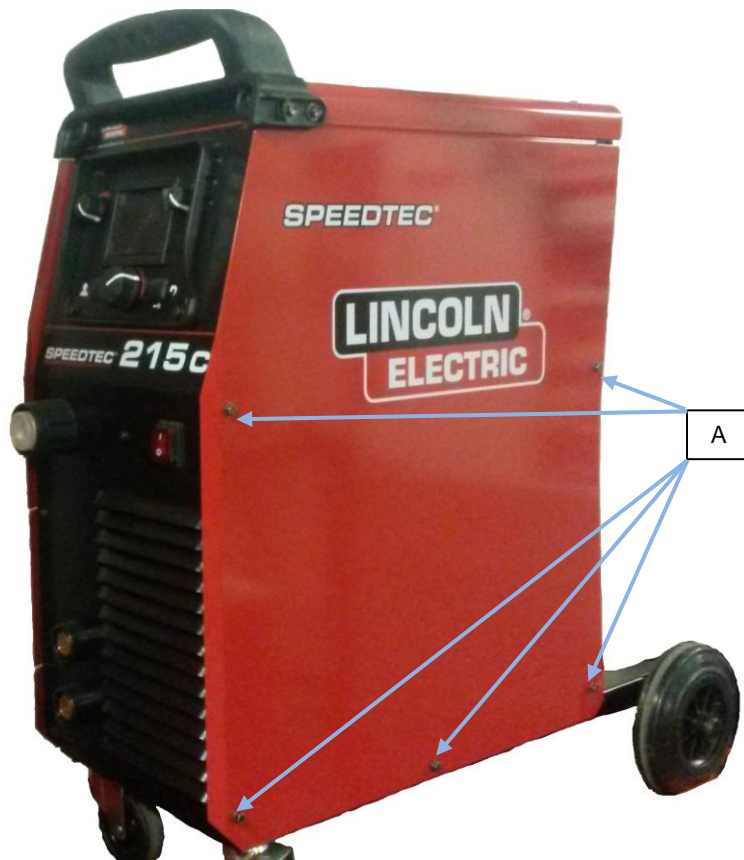

Figure 1
3. Remove the 5 screws (A) from the right panel. **See Figure1**